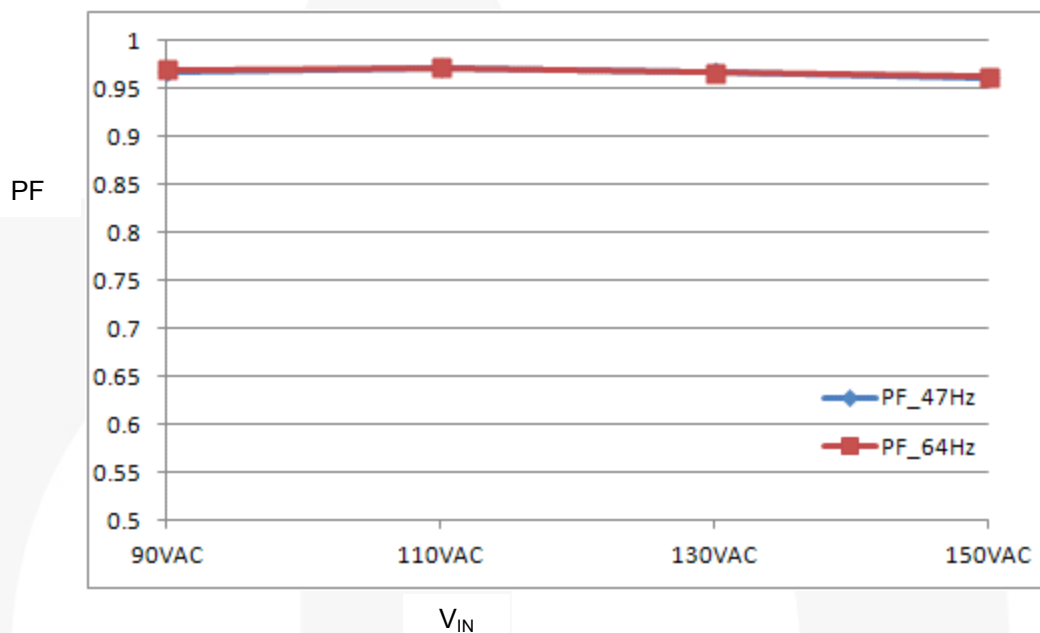

Figure 26. Power Factor
Figure 26 shows the system Power Factor (PF) performance for the entire input voltage range (90V_{AC} to 150V_{AC}) at different input frequency conditions (47Hz, 64Hz). The PF changes slightly according to the input frequency.